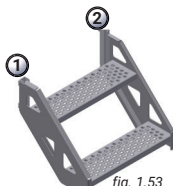

fig. 1.53
- 1- Align the access stairs (fig. 1.53) with the bottom of the motorized access car.